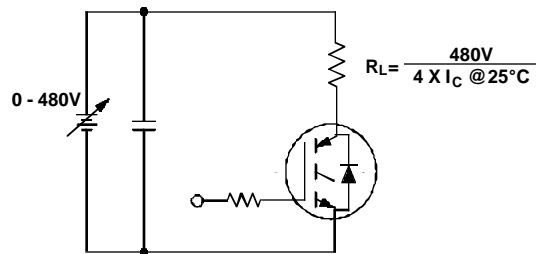

Figure 20. Pulsed Collector Current Test Circuit
- ① Repetitive rating; $V_{GE}=20V$, pulse width limited by max. junction temperature. (See Fig. 20)
- ① Repetitive rating: $V_{GE}=20V$; pulse width limited by maximum junction temperature (figure 20)